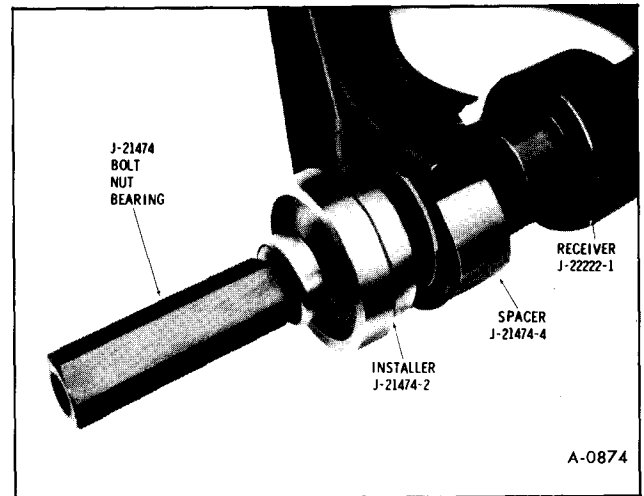

Figure 20—Installing Upper Control Arm Bushing
1. Install tools as shown in Figure 20 and press bushings into control arm.